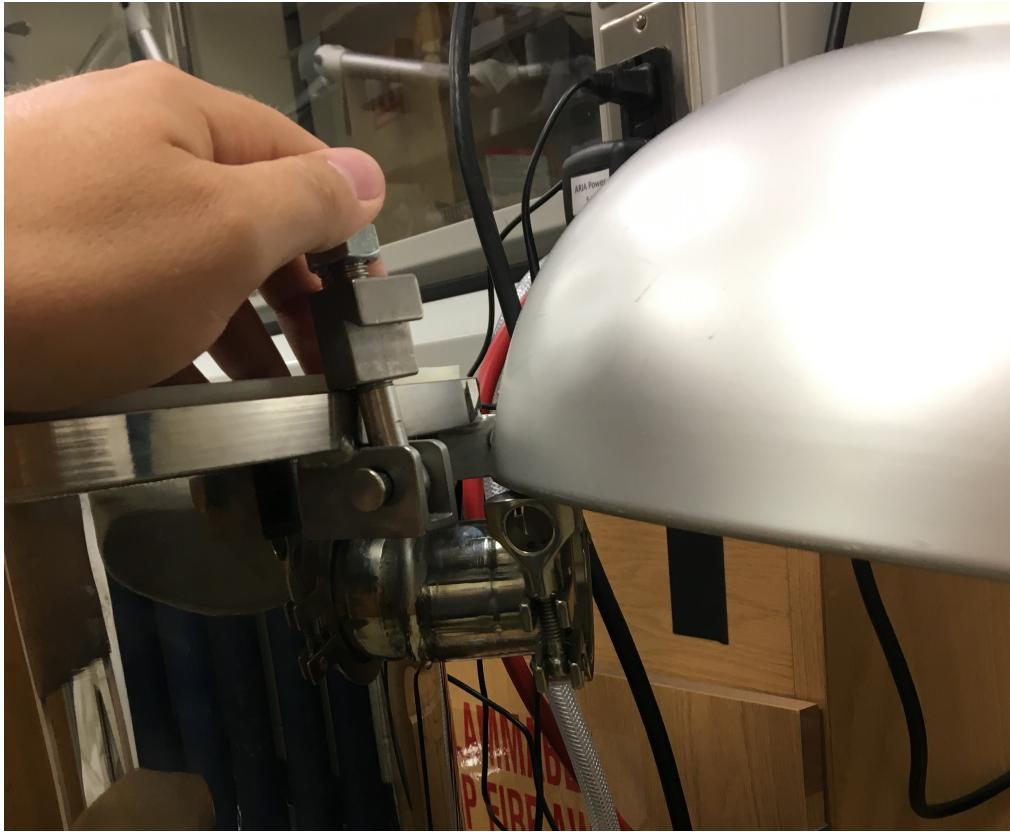

Figure 5: Snorkel placement during operation
6. **Simultaneously** remove the snorkel from inside the vessel and place above the rupture disk (see Figure 5) **and** place lid on pressure vessel and secure in place with the clamps and cable